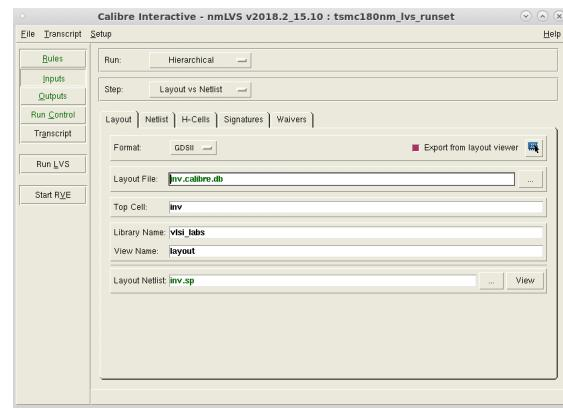

Figure 16: Calibre nmLVS main window.
3. The Calibre nmLVS window now appears (Fig. 16). As for the DRC, you should not have to modify anything on the nmLVS window.